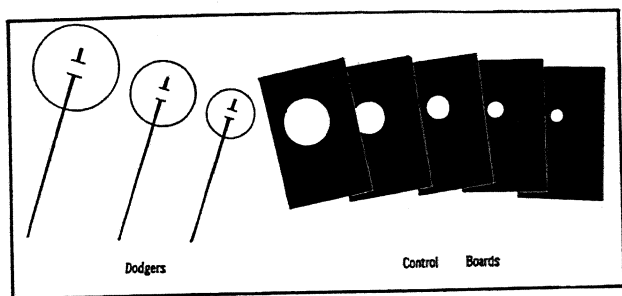

FIG. 51. DODGING AND CONTROL DEVICES
enlargement, so that less light will reach this area and it will consequently print lighter. This can be accomplished by small cardboards fastened on the ends of wires which can be held under the enlarger lens so as to cover the portion it is desired to print lighter (see Fig. 51). The dodger should be moved in a slightly circular motion so that its outline will not become part of the print, and experience will show how much dodging is necessary. Allow the light to act on the whole picture for a long enough time to print
*Other Control Devices.*—Other control devices can be pieces of black cardboard with round holes cut in them (see Fig. 51). These control boards, when held under the lens, prevent the light from striking all the easel *except* the circle, and are used to secure increased exposure on portions of the picture that need it, at the same time shielding the rest of the picture from further exposure.